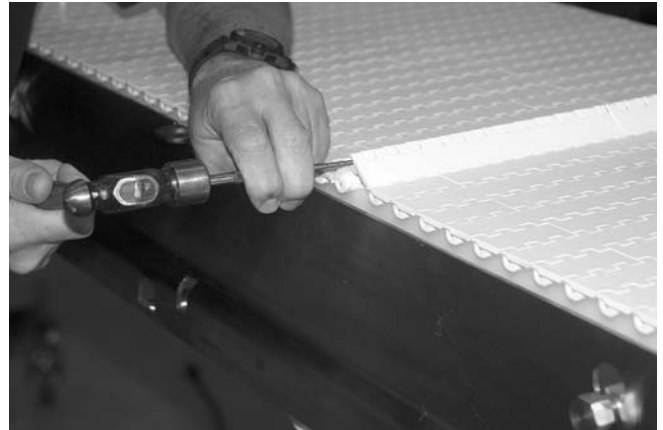

Figure 46
4. Use a punch and hammer to push the belt rod out by striking the rod end opposite the retaining head (Figure 46).